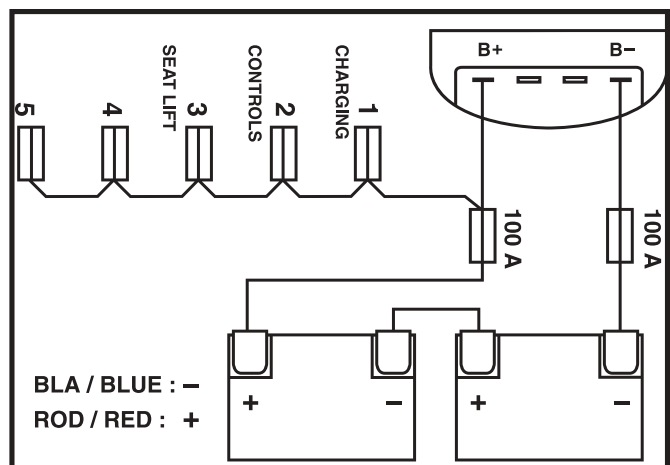

Figure 14. Battery Cable Orientation
7. Reconnect the **red** positive (+) battery cable to the positive (+) battery terminal. See figure 14.